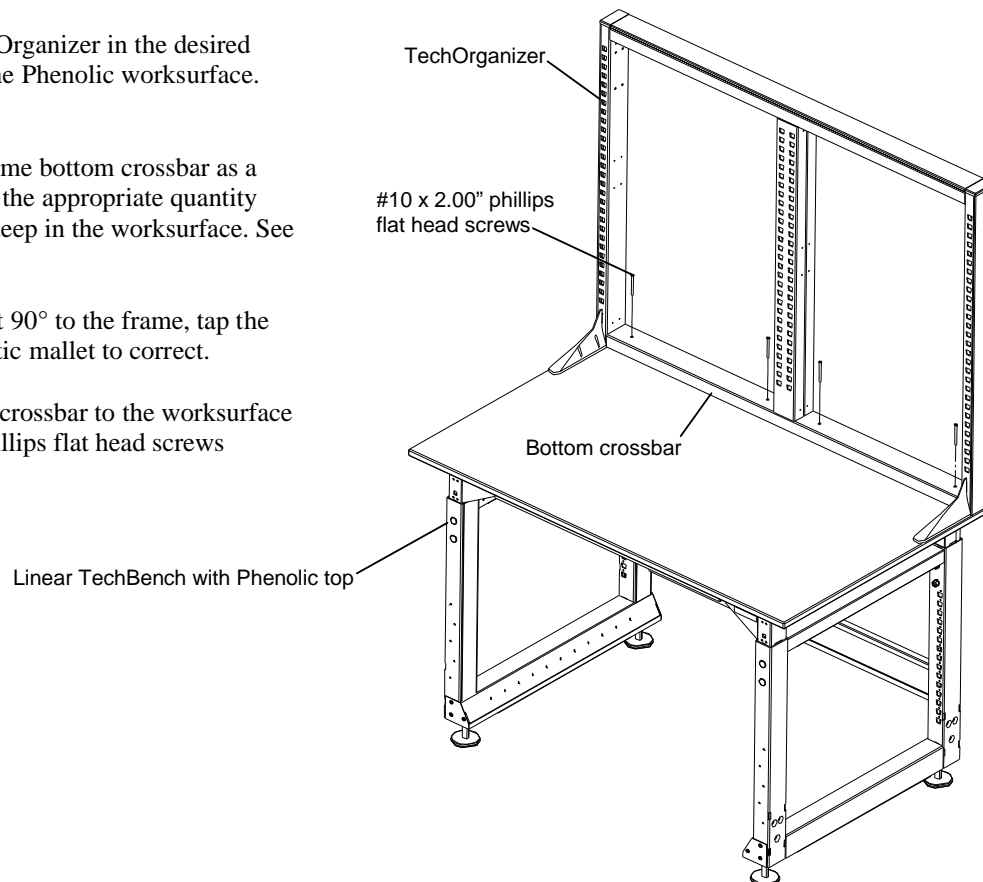

Figure 1.
2. Using the holes in the frame bottom crossbar as a template, locate and drill the appropriate quantity of .164 dia. holes .650" deep in the worksurface. See figure 1.
3. Attach the frame bottom crossbar to the worksurface using the #10 x 2.00" phillips flat head screws provided. See figure 1.